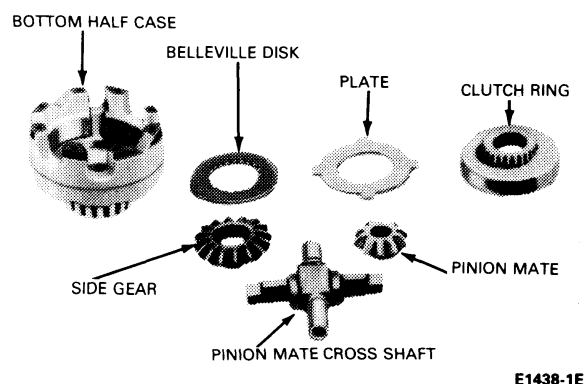

FIG. 16 Components to Check for Excessive Wear or Scoring
- Inspect all other parts and replace any part that appears to be worn or damaged (Fig. 16).